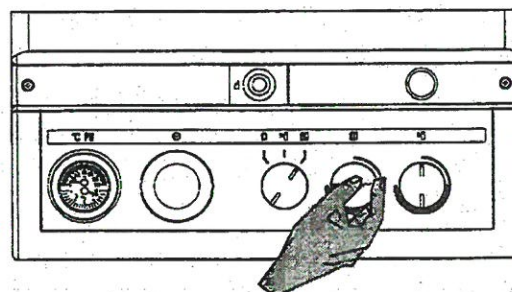

Fig. 6
- 2.3. Adjust the Central heating temperature control knob (4) to suit the weather, turning clockwise to increase setting anticlockwise to decrease setting. (Fig.6)